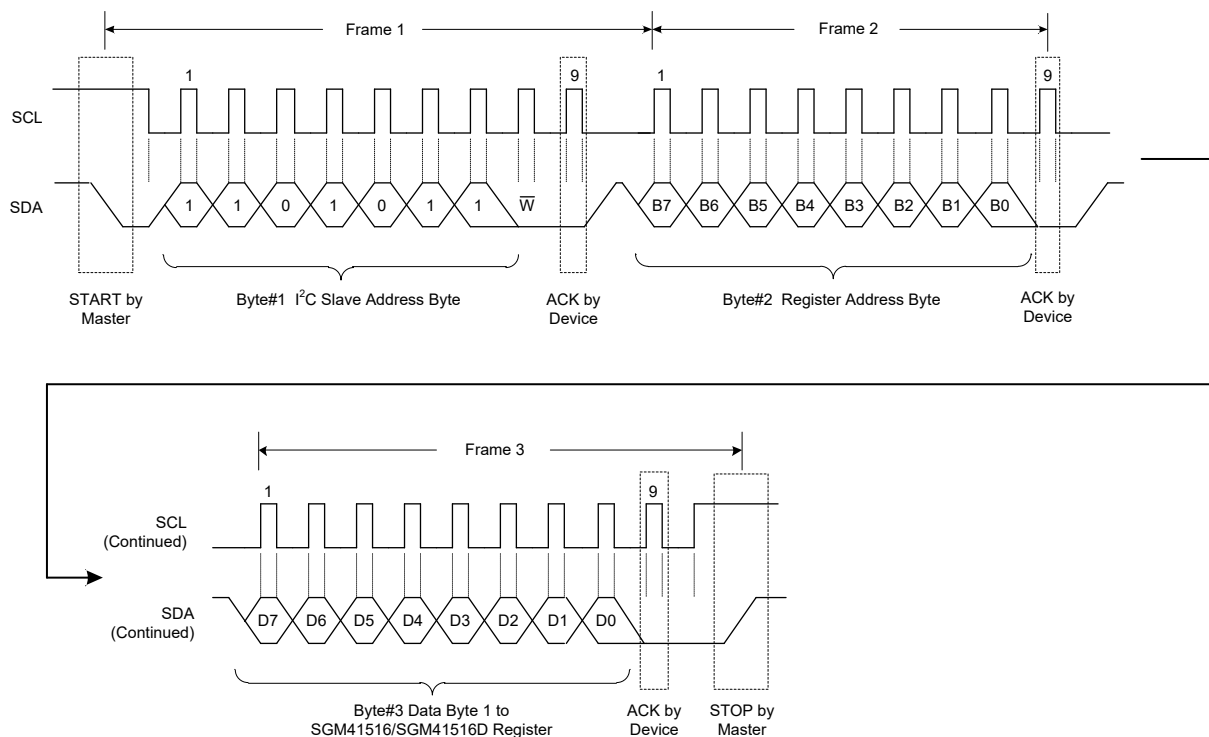

Figure 17. A Single Write Transaction
**WRITE:** If the master wants to write in the register, the third byte can be written directly as shown in Figure 17 for a single write data transfer. After receiving the ACK, master may issue a STOP condition to end the transaction or send the next register data, which will be written to the next address in a slave as multi-write. A STOP is needed after sending the last data.